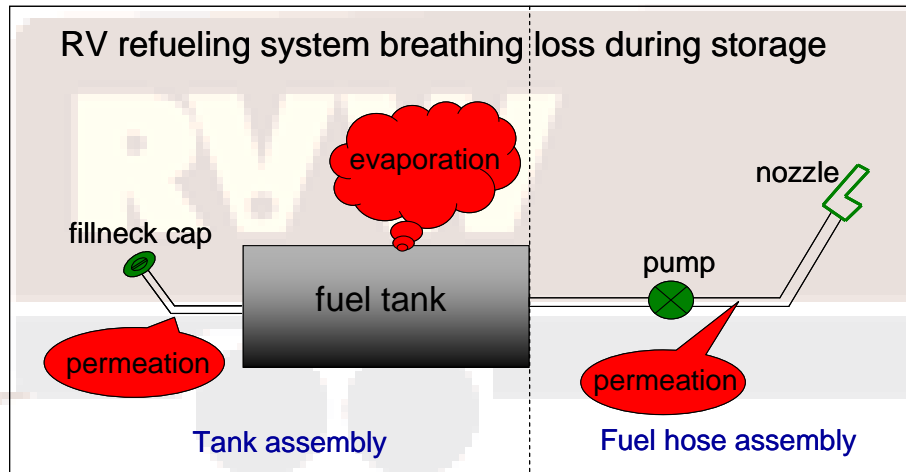

Figure 1. Schematic illustration of RV refueling system breathing loss during the storage.
- Breathing loss = vented emissions from the fuel tank during storage + permeation from the fillneck hose during storage + permeation from the fuel hose during storage (Fig. 1)
This configuration will isolate the tank assembly (tank+fillneck hose+fillneck cap) from the fuel hose assembly (pre-hose+post-hose+nozzle), see Figure 1.